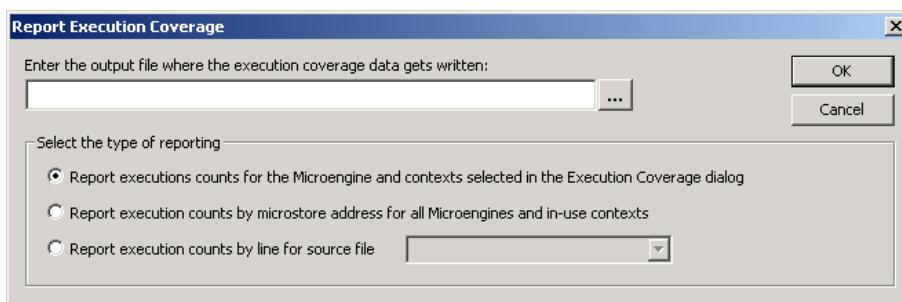

Figure 2.58. Report Execution Coverage for the Microengines
1. Report executions counts for the Microengine and contexts selected in the **Execution Coverage** dialog (see Figure 2.58). Effectively, this reports the same executions counts that are being displayed in the Execution Coverage dialog. The report is by microstore address and includes only the instructions executed by the Microengine and contexts that are selected in the parent dialog.